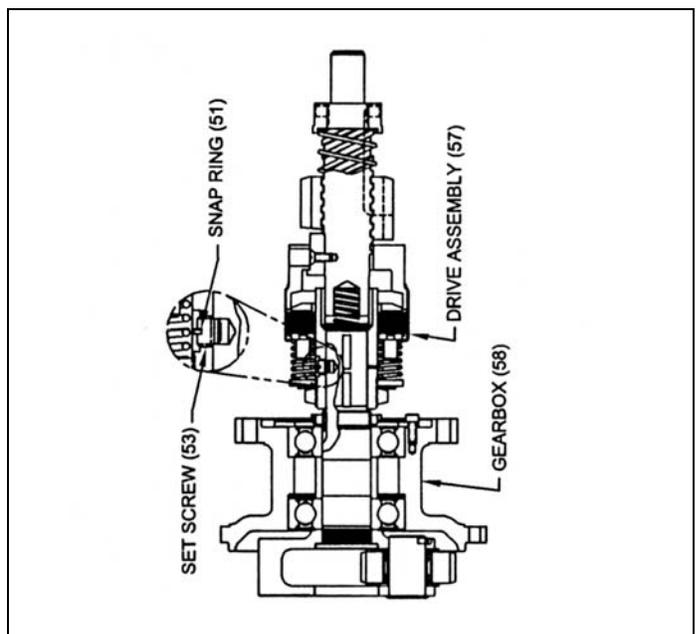

Figure 9. Bendix Drive Removal
Remove set screw using a flat head screwdriver, *Figure 9* and pull the bendix assembly from the starter carrier shaft. Remove spring (52). This spring fits loosely between the bendix assembly and carrier
Remove set screw using a flat head screwdriver, *Figure 9*, and pull the bendix assembly from the starter carrier shaft.